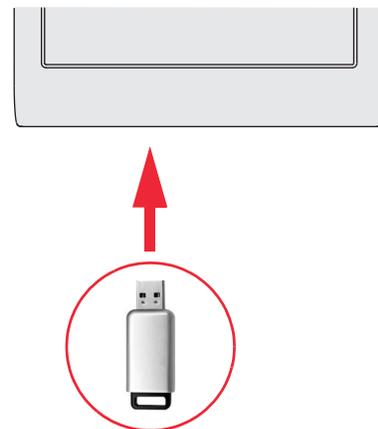

Fig. 281. Using USB device.
7. After the file is saved, remove the USB device from the computer and connect it to the thermostat. See Fig. 281. Then select the “Dealer Information” option on the thermostat.
6. After the file is saved, remove the USB device from the computer and connect it to the thermostat. See Fig. 281. Then select the “Software Update” option on the thermostat.